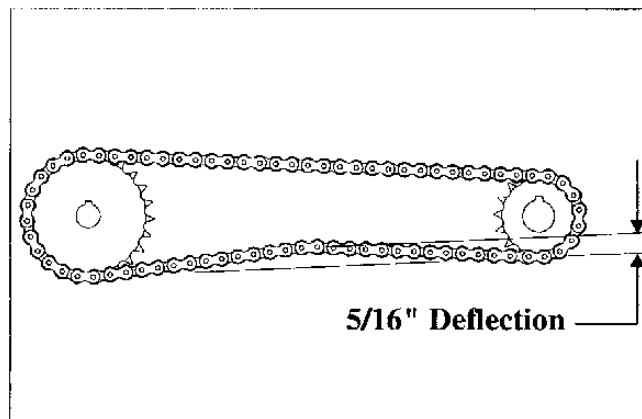

Figure 7
- Maintain spinner shaft-to-gear case roller chain tension. Correct chain tension allows 5/16" deflection midway between the sprockets. See Figure 7.